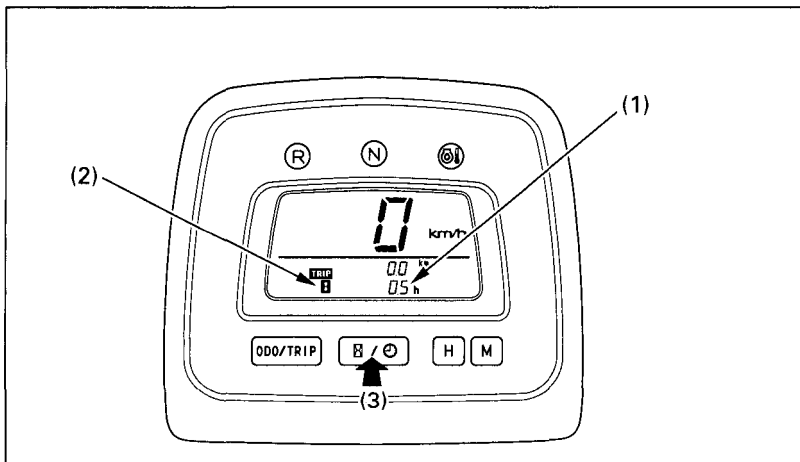

Fig. 2-18 (1) Hourmeter
When selected, the hourmeter (1) (Fig. 2-18) shows accumulated hours while the ignition is ON (I). The hourmeter provides accurate service period information for initial and regular maintenance. To change the display from the digital clock to the hourmeter mark (2), press and release the hourmeter/digital clock select button (3).